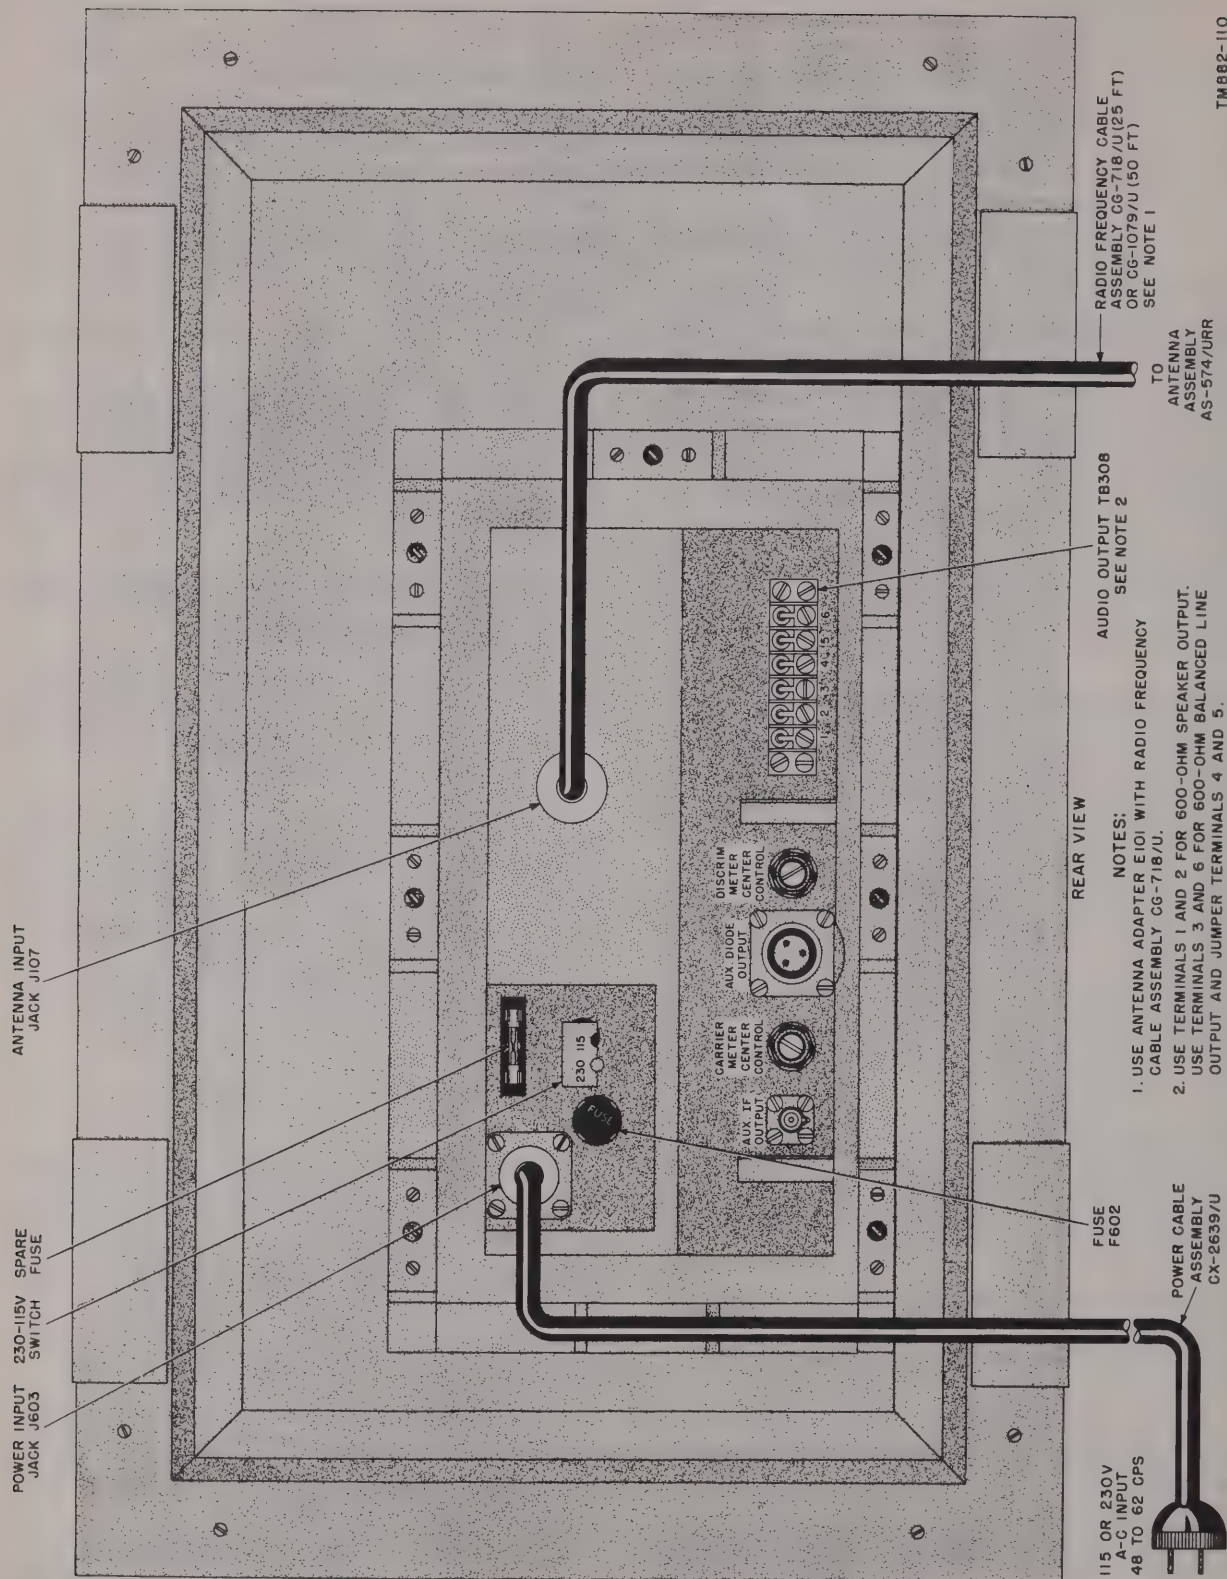

Figure 11. Radio Receiving Set AN/URR-29, external connections.
(fig. 11)
c. Connect the low-impedance speaker or the headphones to terminals 1 and 2 of terminal board TB308 at the rear of the receiver (fig. 11).
e. Make connections to AUX. IF. OUTPUT J302 and to AUX. DIODE OUTPUT J301 if used (fig. 11).